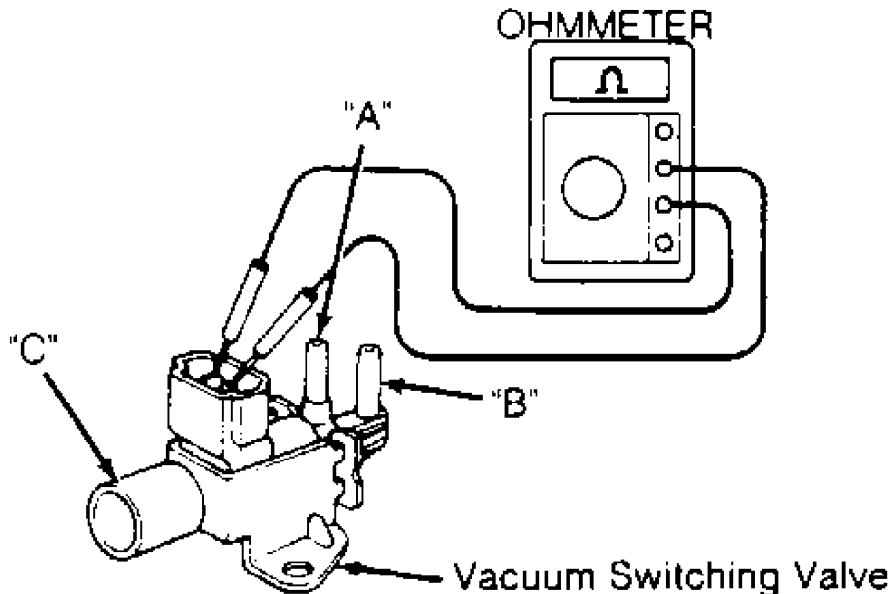

Fig. 15: Testing Vacuum Switching Valve
1) Remove vacuum connections from fittings "A" and "B" on VSV. See Fig. 15. Connect VSV terminal connector to battery. Blow air through fitting "A". Air should pass from fitting "A" out through fitting "B". Air should not be felt at "C" (atmospheric port).